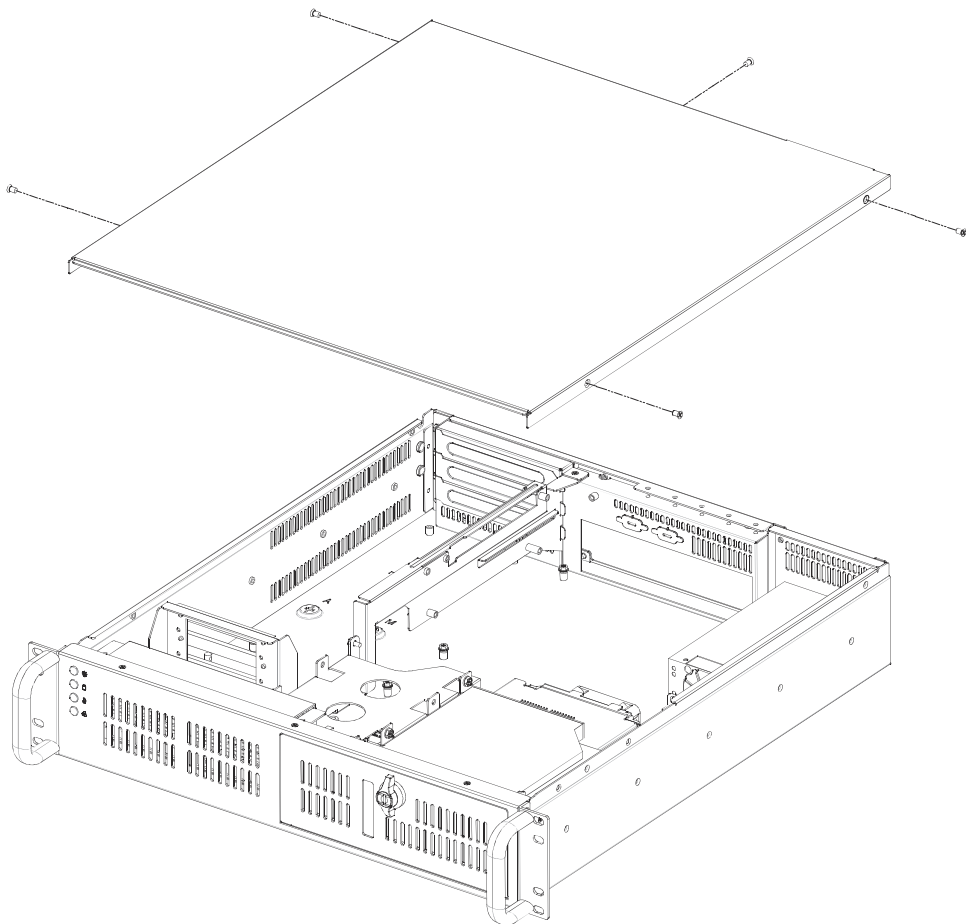

Figure 2.1 Removing the top cover
2. Slide the top cover backwards and then lift it up. (see Figure 2.1)